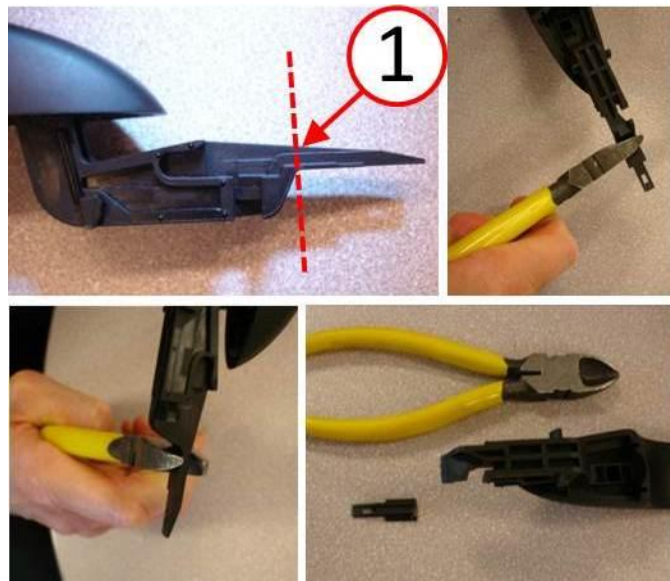

Fig. 8 Modify Door Handle
9. Remove the passive entry connector tab at the cut line (1) as shown (Fig. 8).